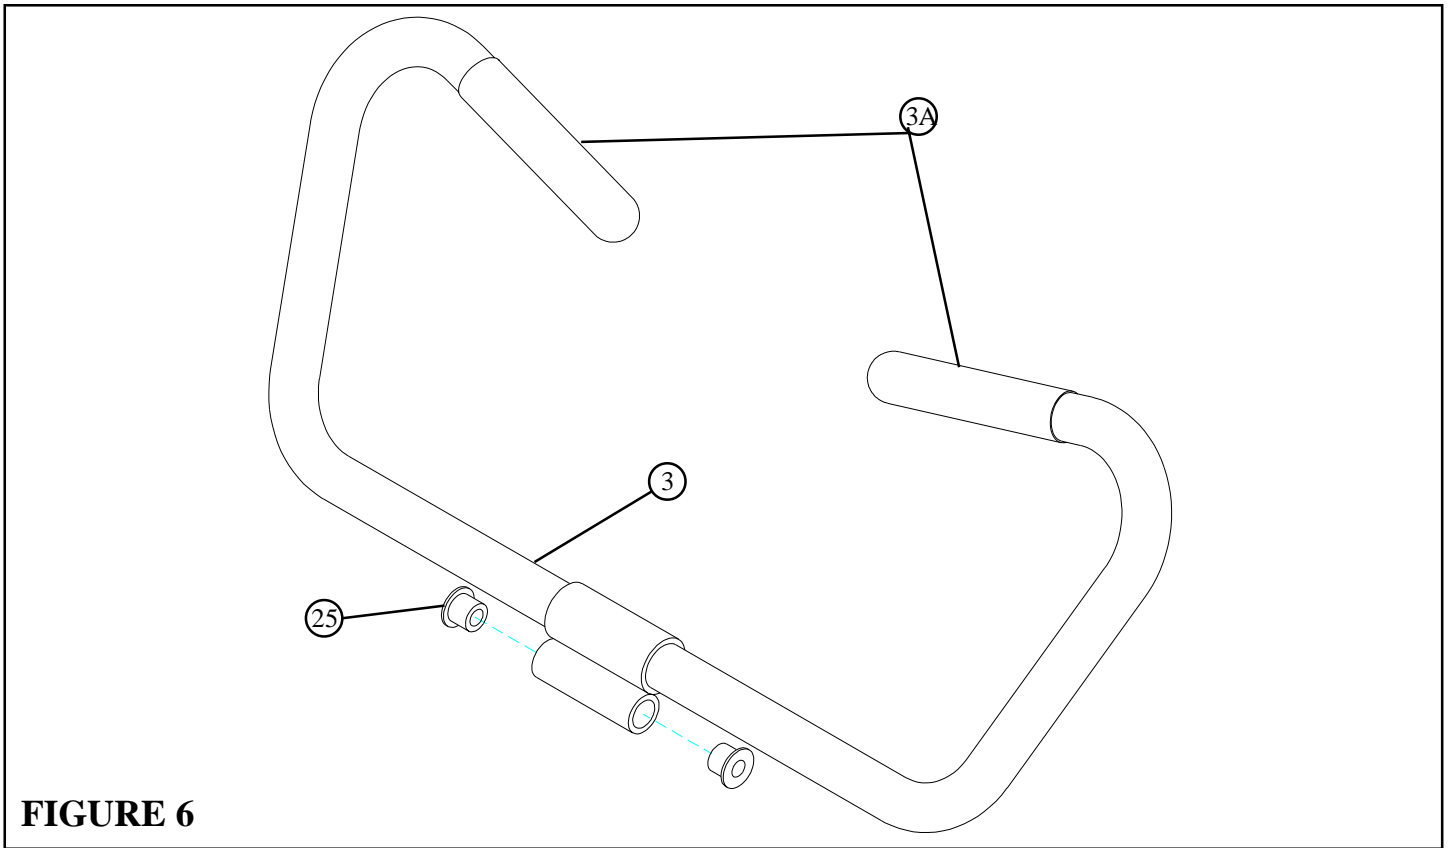

FIGURE 6
- Insert two 1/2" FLANGE BEARINGS (25) into the HANDLE (3) as shown in FIGURE 6.